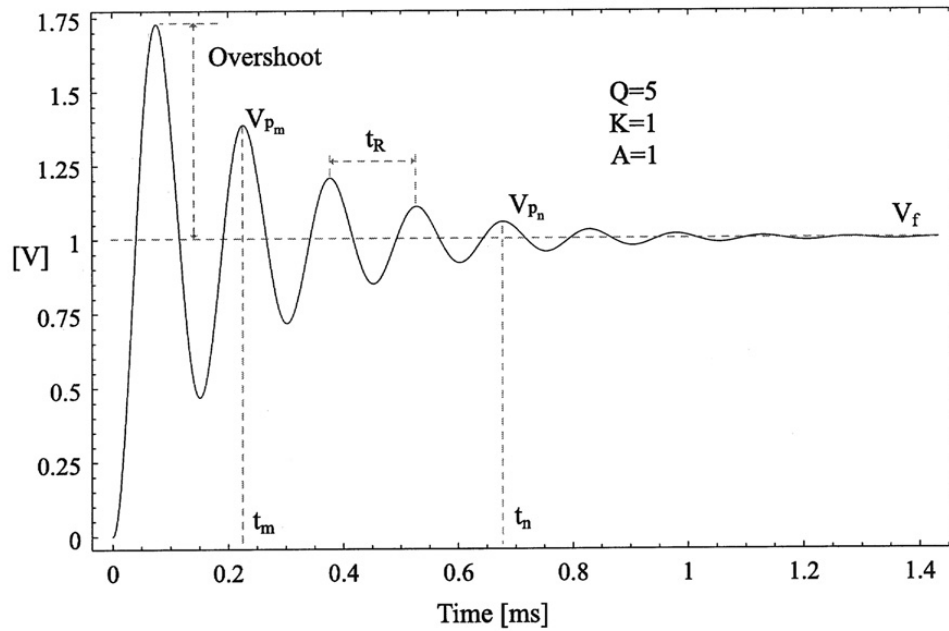

Figure 2. Time domain step response of a low-pass filter with $K = 1$, $Q = 5$ and $A = 1$.
Figure 2: (a) Action of typical bass and treble controls. From *The Science of Sound, Second Edition*, Rossing, p. 444. (b) A midrange filter response. From *Application Specific Analog Products Databook, 1995 Edition*, p. 1-229.
If a step function, $Au(t)$, is impressed on the low-pass filter, the output voltage (see Fig. 2) is ($Q > 0.5$):
A much better way to determine Q in high-Q filters is from the decay values of the sinusoidal waveform peaks. First, measure the values of several peaks and their corresponding times (V_{p1} , t_1 ; V_{p2} , t_2 ; ...). see Fig. 2. The peak values occur when the sinusoid in equation (2) is equal to 1, so it can be removed from the analysis. The Q can then be calculated from the peak values and times of two peaks (m , n) at times (t_m , t_n), where $0 < t_m < t_n$ (one of the peaks could very well be the first peak).